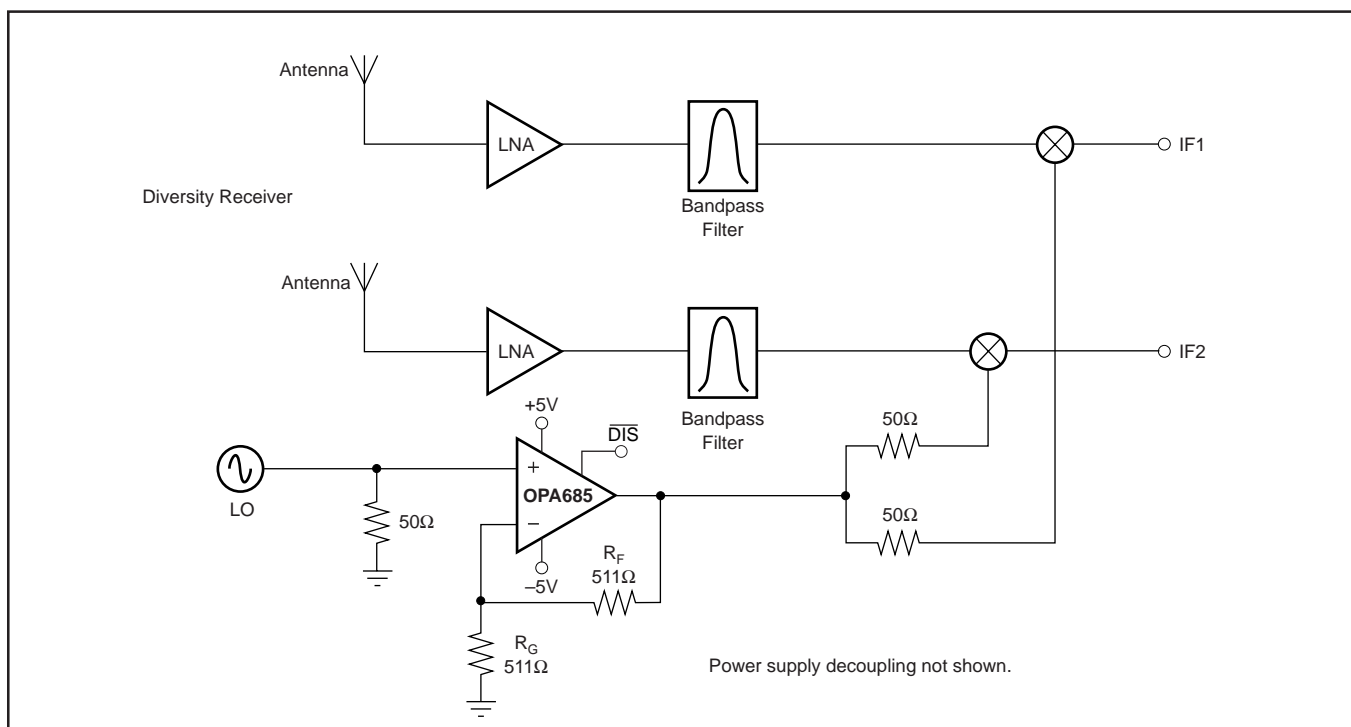

FIGURE 6. Dual Output LO Buffer.
The OPA685 may also be used to buffer the Local Oscillator (LO) from the mixer(s). Operating at a voltage gain of $+2$, the OPA685 will provide almost perfect load isolation for the LO with a net gain of 0dB to the mixer. Applications through 1GHz LOs may be considered, but best operation would be for LOs $< 500\text{MHz}$ at a gain of $+2$. Gain could also be easily provided by the OPA685 to drive higher power levels into the mixer. One unique option in using the OPA685 as an LO buffer is shown in Figure 6. Since the OPA685 can